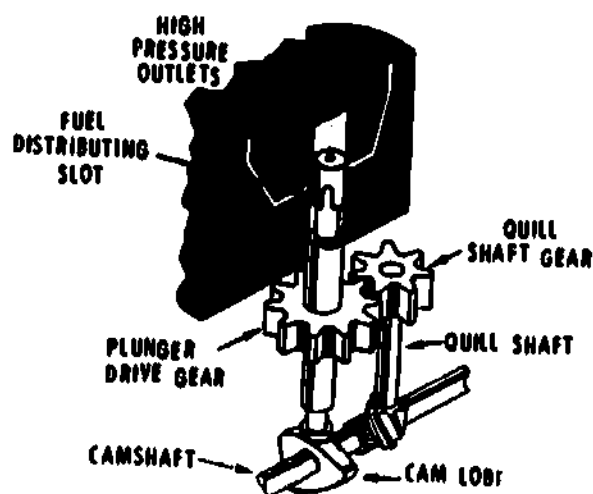

Fig 3-12. Fuel plunger operation.
- (2) **Fuel plunger (fig 3-12).** Fuel is distributed to the fuel outlets by turning the fuel plunger in the center of the hydraulic head. Fuel is directed into a fuel line when the fuel distributing slot, which is machined in the plunger, aligns with the outlet to the line. When the plunger rotates one complete turn, its distributing slot will have aligned with all six outlets to the lines. The plunger is rotated by the plunger drive gear. The plunger can move up and down inside the gear. The plunger drive gear is driven by a gear on the quill shaft. The camshaft drives the quill shaft at the same speed as the camshaft. The quill shaft gear drives the plunger gear and the plunger at a 2:1 reduction or half as fast. The quill shaft is shown in foldout illustration No 2.